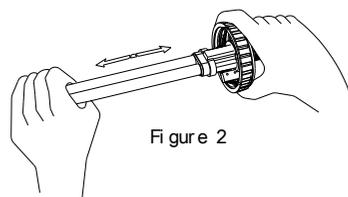

Figure 2
- Remove the UV lamp by gently pulling out of the electrical connection. See figure 2 below.